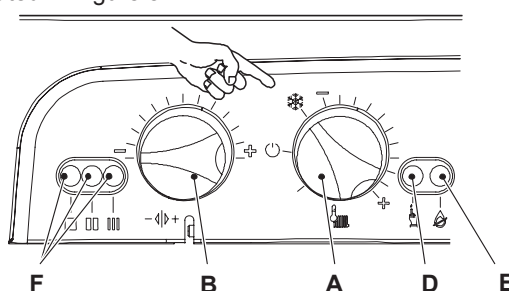

Figure 8.17
- 1 Turn the boiler ON positioning the function selector knob A as indicated in Figure 8.17.